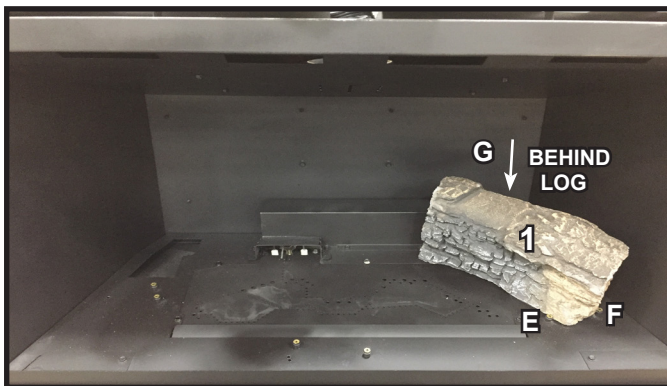

Figure 3 Log #1 Installed
**LOG #1:** Place right end of log 1 on the base pan between log pins E and F. Rotate the log until the left end of the log contacts log pin G. See Figure 3.